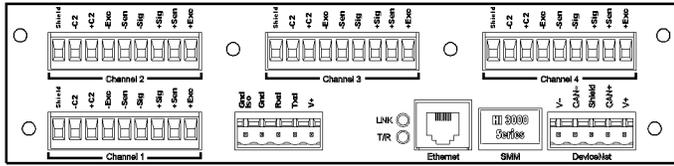

FIG. 5 REAR PANEL/4 LOAD POINT CONNECTIONS
- Step 3. Screw the two fastener knobs into the threaded holes on each side of the Weight Controller until the brackets are snug against the instrument. (See Fig. 5)